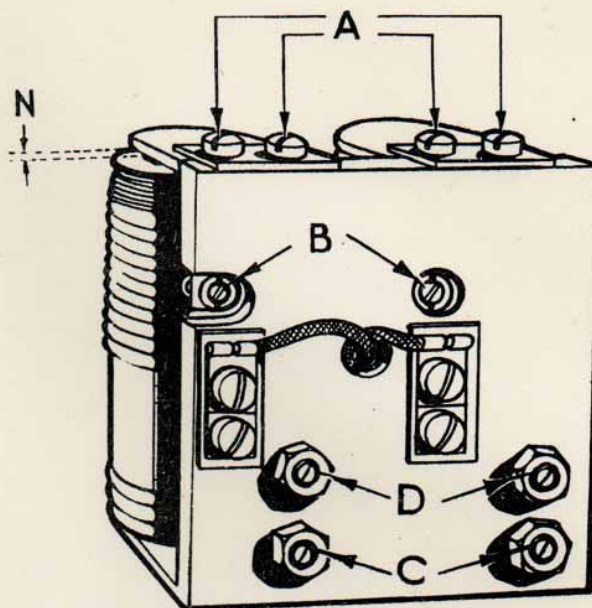

FIG. 14. THE REGULATOR ( REAR VIEW).
2. Run the dynamo up to a speed of 2,000 r.p.m. and set the voltage regulator (right-hand limb looking on front of board) to 30.1 to 30.6 volts by means of the lower adjusting screw (C) Fig.14.
4. Screw in stop screw (D) very slowly, with the set running, until the voltage begins to rise, and then screw back three-quarters of a turn and lock in position with nut.
1. Slacken off screws (A) attaching the flat armature springs to the frame. See Fig.14.
2. Slacken off adjustable contacts (B).
3. Slacken off auxiliary and stop spring adjusting screws (C) and (D).